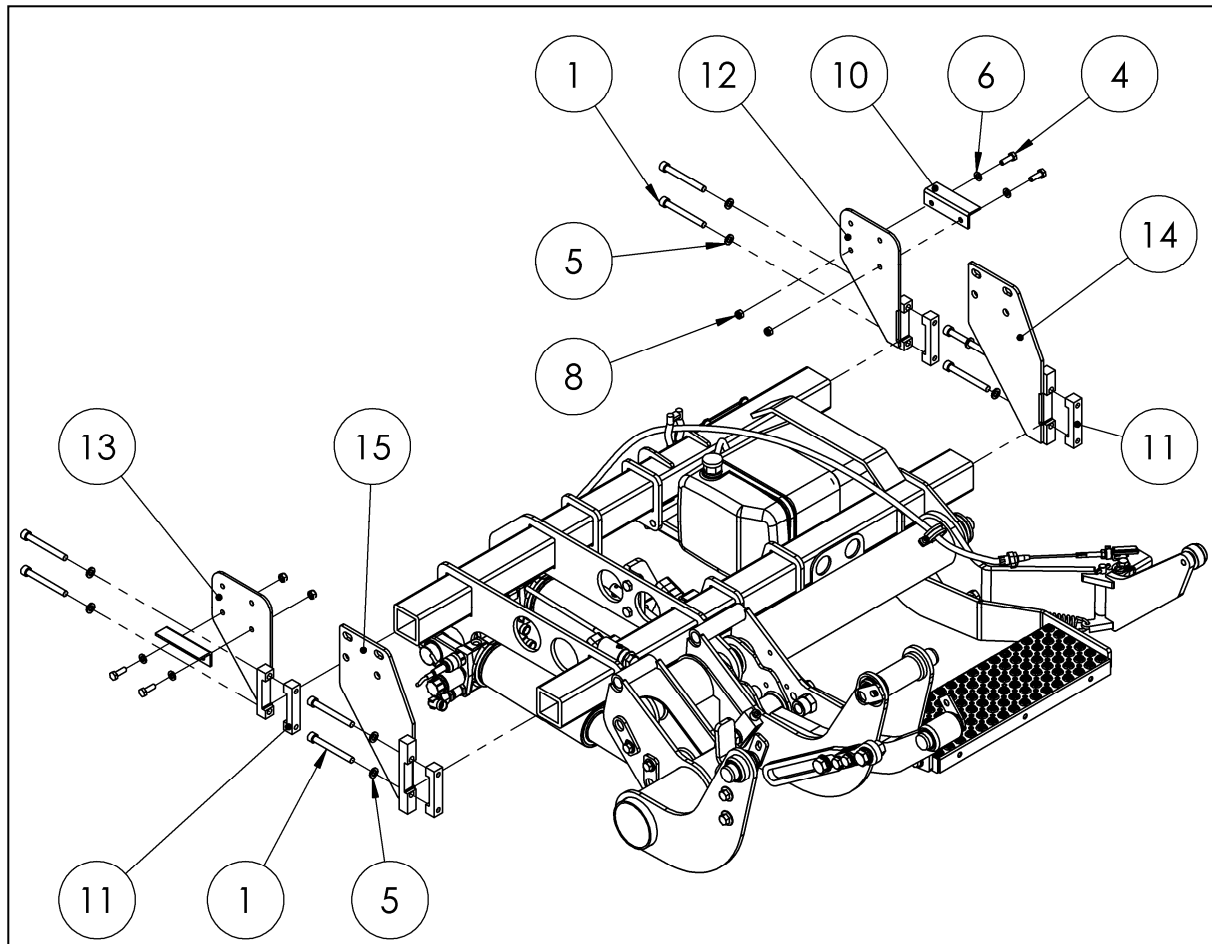

Fig. 12
- Pre-install the installation adapters on the liftgate's lifting gear as shown in Fig. 12, tightening the fittings until hand-tight.
**IMPORTANT:** Depending on the vehicle, choose either with front-wheel drive or with rear-wheel drive, tightening the fittings until hand-tight (see Fig. 12).
**IMPORTANT:** Figure shows the installation adapters for a vehicle with front-wheel drive. The installation adapters for a vehicle with rear-wheel drive are visually different. Installation is the same for both vehicle types and Fig. 12 applies to both.